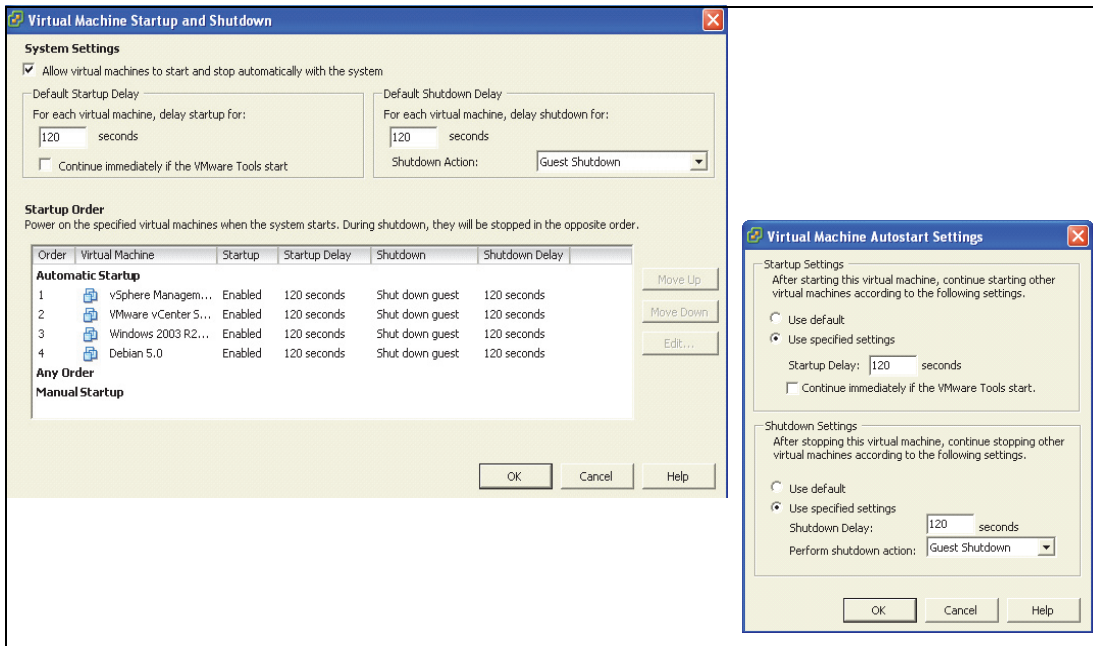

Figure 90. Virtual Machine Startup and Shutdown
- 4 Select VIMA/vMA guest machine and click Edit to configure, as shown in Figure 90.